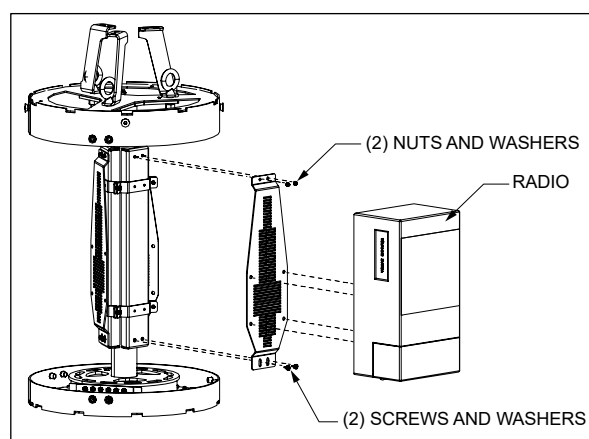

Figure 4 Mount Radio
1. Remove the mounting bracket from the main assembly by removing the hardware at the top and bottom (Figure 4). Save all hardware.
3. Mount the radio/bracket assembly back into position on the SHRD5 main assembly using the hardware removed previously (Figure 4).